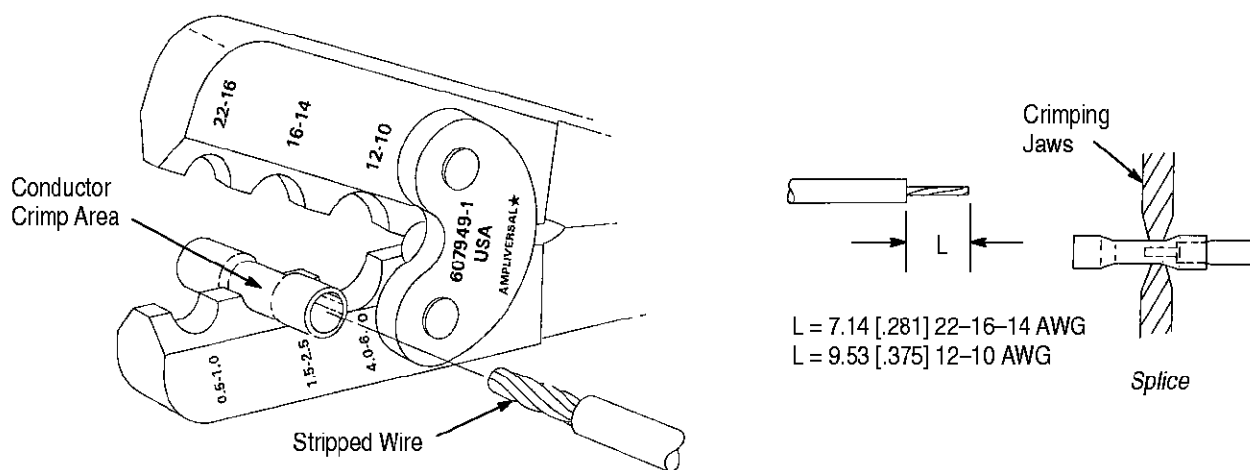

Figure 2
3. CRIMPING PROCEDURES (Figure 2)
3. Align conductor portion of terminal in the cavity as shown in Figure 2.
5. Insert a properly stripped wire (Figure 2) into the terminal until it bottoms.
- Changed part number on tool illustration in Figure 2